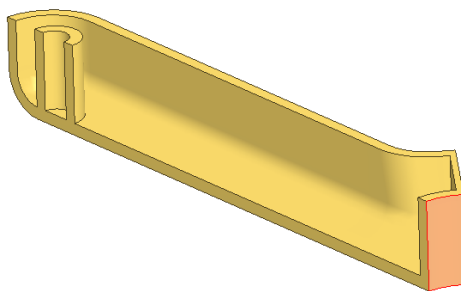

Figure 10 – Constraint Surface
- Choose **Applications > Simulate** now to take your model into analysis. Make sure the mode option is set to **Structure Mode**. The first step is to define some simplistic constraints. In this case the hole where the central pillar of the stanchion fits needs to be fixed. Choose **Constraints > Displacement** (or you could just pick the  icon). The constraint dialog will appear. Pick the surface in this model which is part of the hole (Figure 10) then **OK** to return to the constraint dialog and **OK** to leave this surface fully constrained.